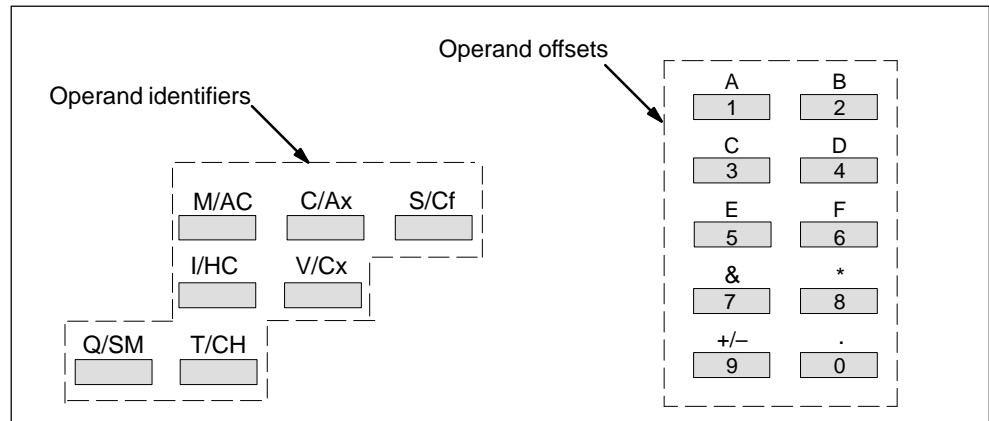

Figure 5-2 Keys for Entering Operand Identifiers and Operand Offsets
Figure 5-2 shows the keys that can be used for entering operand identifiers or operand offsets.
- Individually by using the operand key (see Figure 5-2)
- With the number keys (see Figure 5-2)